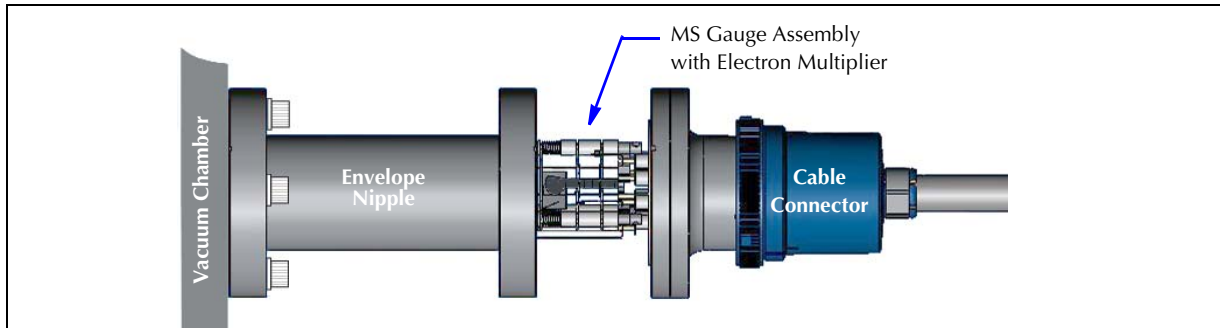

Figure 7-8 Remove the MS Gauge from the Envelope Nipple
1. Turn OFF power to the VQM System and vent the chamber to atmosphere. Disconnect the cable from the MS Gauge and remove the 6 bolts that attach the MS Gauge to the envelope nipple. See Figure 7-8.